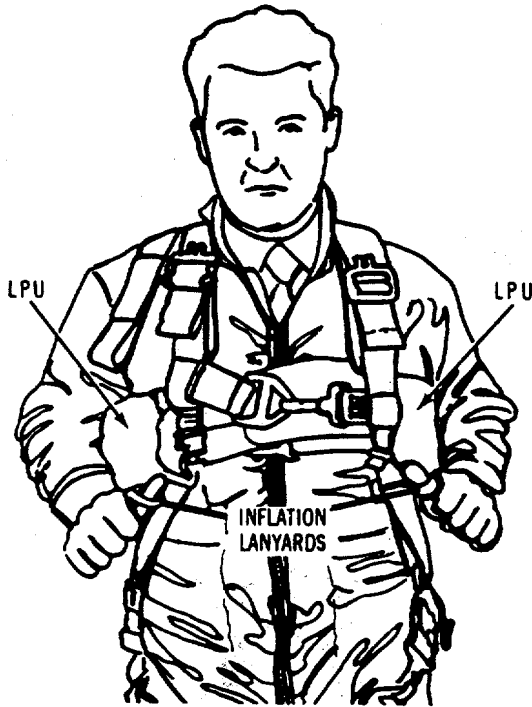

Figure 2-22. Activating the LPU.
f. *LPU Inflation Sequence.* After canopy has inflated, grasp the inflation lanyards of the LPU and inflate both sides of the underarm life preserver by pulling down and out on the inflation lanyards. The LPU will inflate automatically (fig. 2-22).
(1) If one side of the LPU should not completely inflate, grasp the oral inflation valve and push